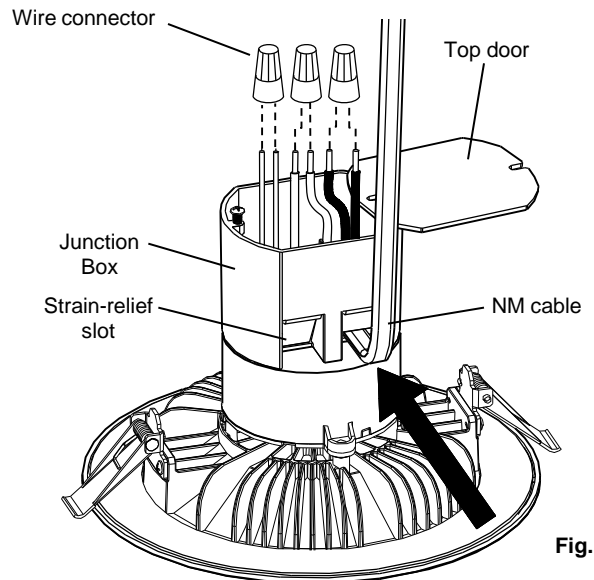

Fig. 3
4. Open the top door of the junction box. Insert about 5 or 6 inches of the NM cable into the junction box through one of the provided strain-relief slots. (Fig. 3)
5. Remove at least 3" of the cable's outer sheath and remove the plastic or paper over-wrap. Strip approximately 3/8" of insulation from the ends of all supply wires. Using the wire connectors, make the following wire connections within the junction box (Fig. 3):